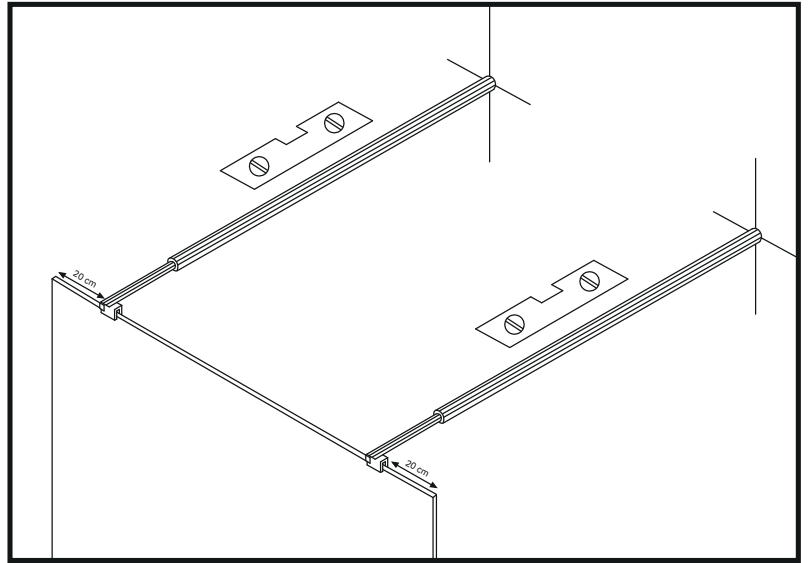

Figure 5
12. The glass clamps must be located a maximum of 20 cm from the corner of the glass. (Figure 5)